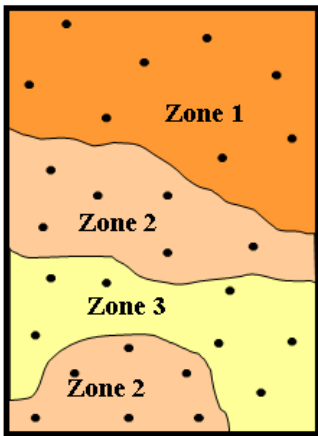

Figure 4. Example of directed sampling pattern for a field with three zones; Zone 2 is comprised of two areas that are similar but not contiguous.
may create small areas which are not really manageable. Management zones need not be contiguous — samples may be collected for more than one area of a field which fall into the same range of yield, soil color, etc. and, thus, the same zone (Figure 4).
**Accurately Sample Each Zone.** Collect soil samples from each zone according to current recommendations (NebGuide G1740, *Guidelines for Soil Sampling*). For general fertility recommendations, collect 10 to 15 cores to a depth of 8 inches from within the zone, then composite samples into one to send to the lab for analysis (Figure 4).
Figure 4 shows how cores from the two areas of Zone 2 can be composited into one sample to send to the lab. Samples can be georeferenced with a GPS receiver for repeatability, if desired. This will allow you to collect samples in the future from basically the same locations, even though you are compositing the cores for analysis.